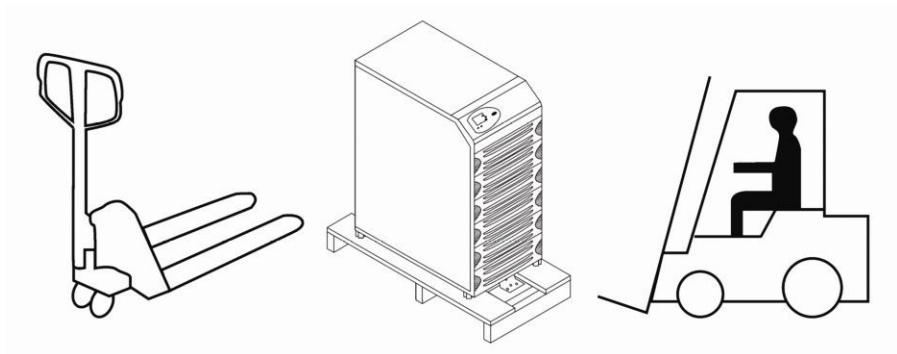

Figure-4 Transporting the UPS
- ! Carry the UPS to installation location along with the palette it was shipped on using a forklift or pallet jack. (Figure-4)